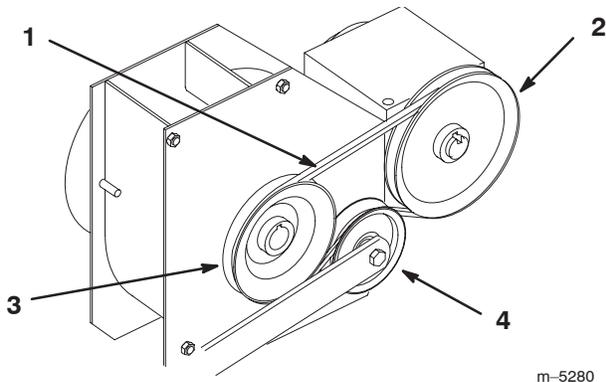

Figure 93
2. Push up on the spring loaded idler arm behind left hand traction tire to relax pressure on blower belt (Fig. 93). Lock into frame slot.
4. Install new blower belt around PTO gearbox and blower pulleys. Then release spring loaded idler arm and place belt above idler pulley (Fig. 93).
5. Check that belt aligns with PTO box, blower and idler pulleys (Fig. 93).